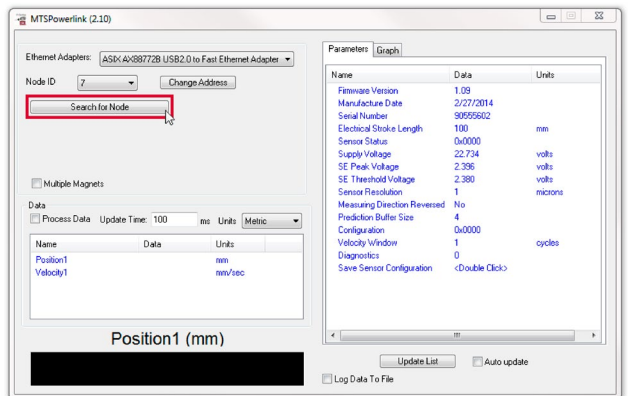

Fig. 52: Search for node ID
2. Click on “Search for Node” to figure out which node ID the connected sensor has (Fig. 52). The default node ID is 32.